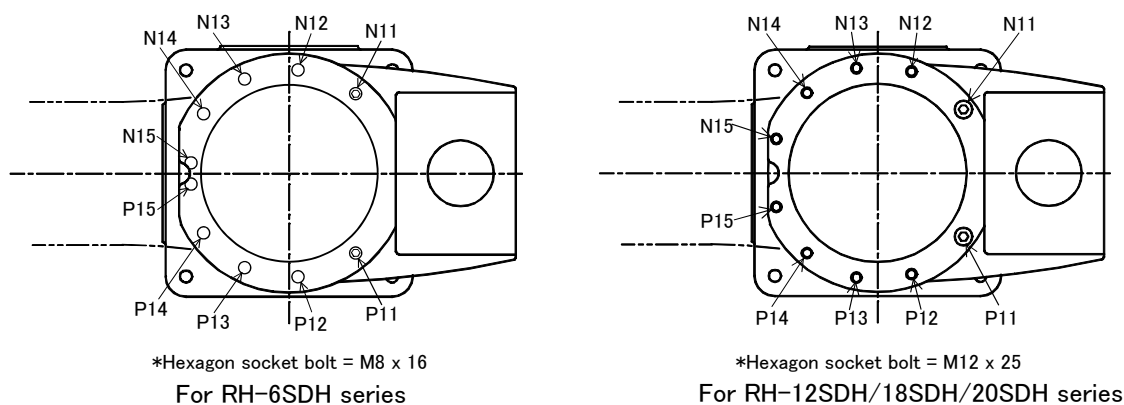
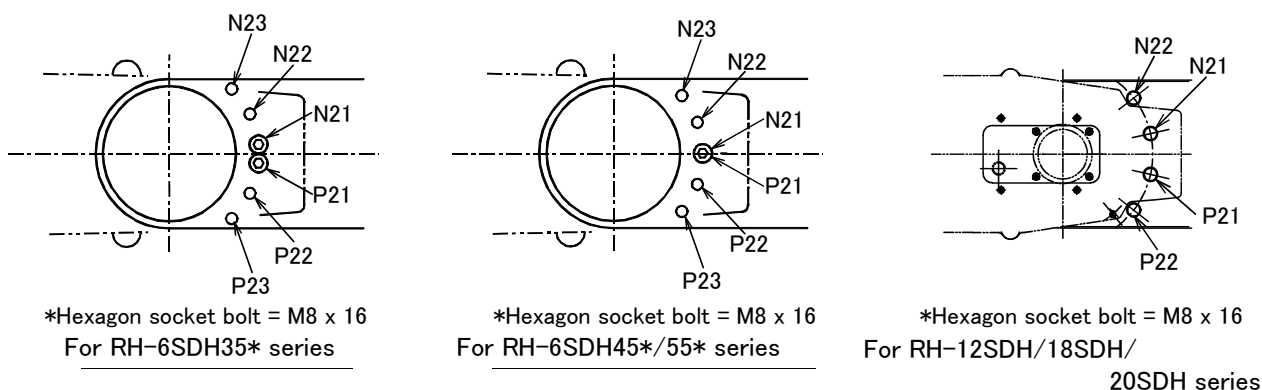

Fig.2-51 : Mechanical stopper position (J1 axis)
Fig.2-52 : Mechanical stopper position (J2 axis)
Note4) Refer to Fig. 2-51 and Fig. 2-52 for mechanical stopper position. The J3 axis makes the mechanical stopper slide.
- 2) Install the hexagon socket bolt in the screw hole to the angle to set up referring to Table 2-21 and Fig. 2-51, and Fig. 2-52. About the mechanical stopper position and the relation of bolt size, the J1 axis is shown in Fig. 2-51, and the J2 axis is shown in Fig. 2-52. When the screw hole is covered by the arm, move the No.1 arm or the No.2 arm slowly by hand.